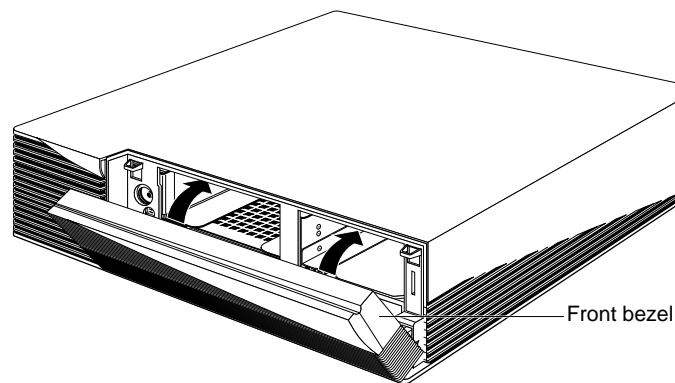

Figure 4-8 Replacing the Front Bezel on the Indigo² Chassis
- Place the tabs on the bottom of the bezel in the grooves in the front of the chassis, as shown in Figure 4-8.